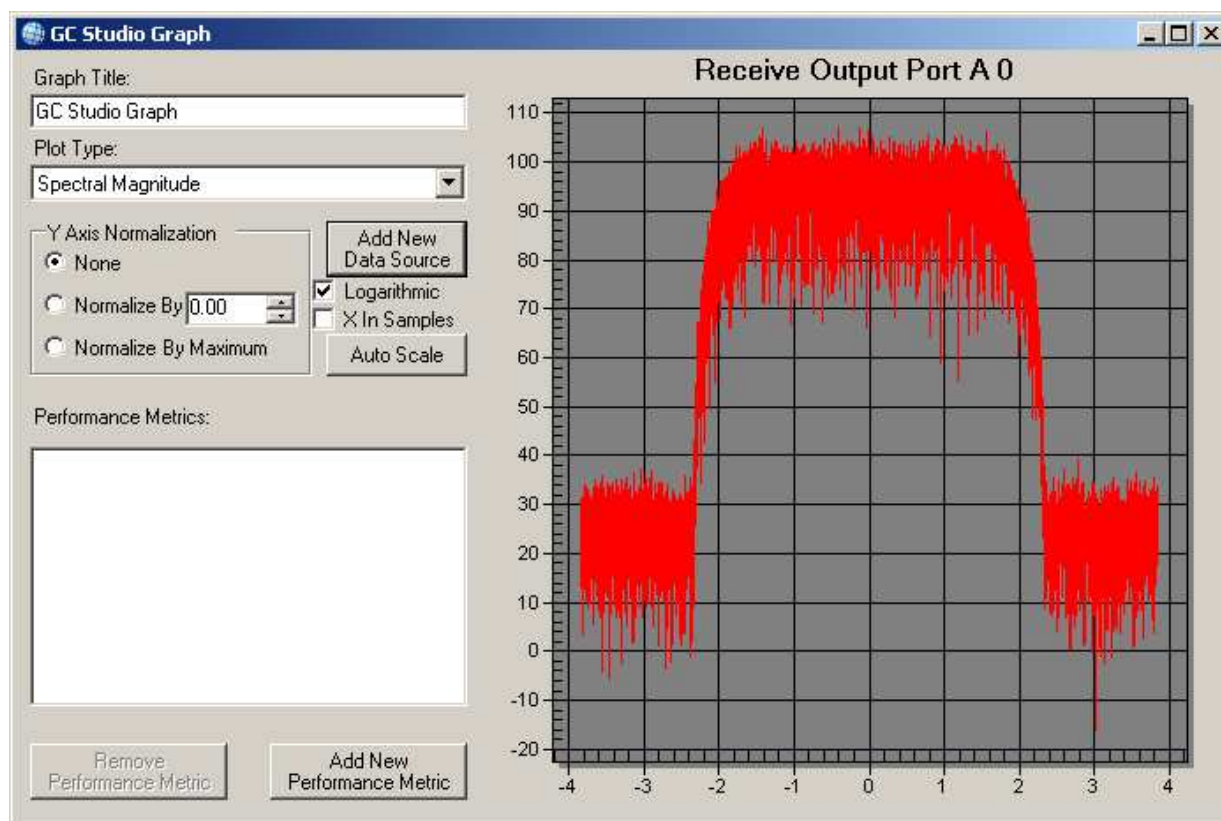

**Figure 66. WCDMA – Build and Load Buttons**
33. On the GC Studio panel, click the Build and Load buttons, circled in Figure 66. This will execute the experiment.